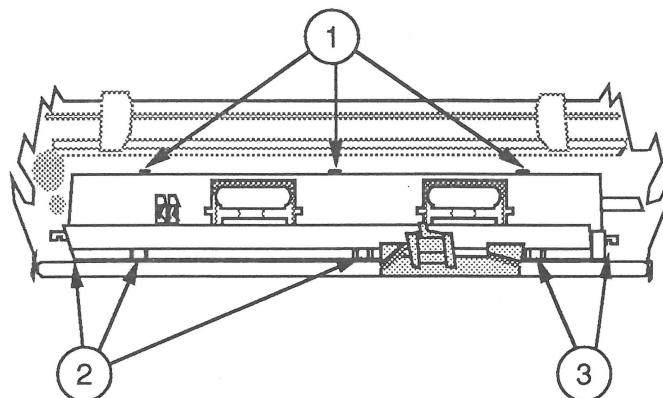

FIGURE 17
24. Remove the three screws (Figure 17, #1) that hold the paper guide in place.
25. Push the carrier to the left; then gently unhook each of the three tabs (Figure 17, #2) with a small flatblade screwdriver. Push the carrier to the right; then gently unhook each of the remaining two tabs (Figure 17, #3) with a small flatblade screwdriver.